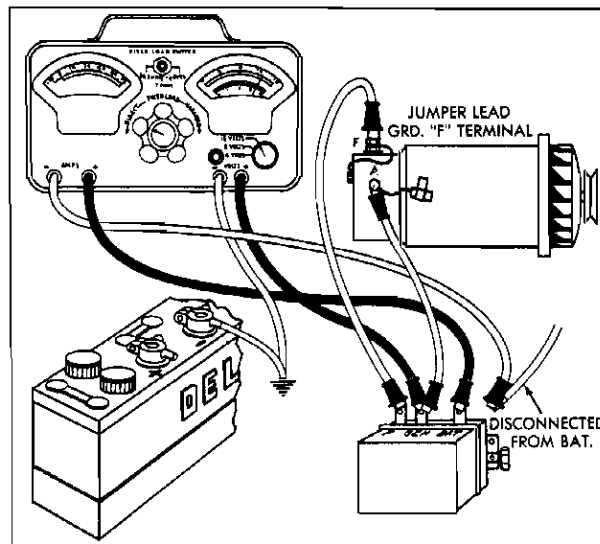

Fig. 11-18 Cut-Out Relay Adjustment
3. Connect test ammeter and voltmeter leads as shown in Fig. 11-18.